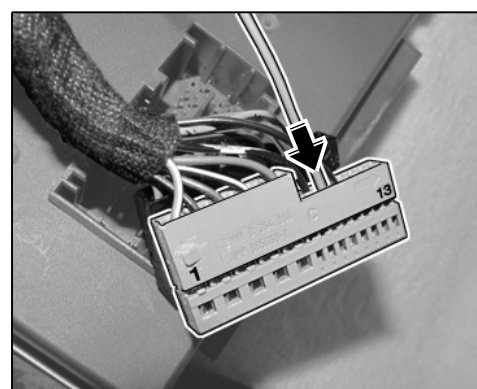

Figure 29
- 3.3.3 Insert socket contact into chamber 8 ⇒ *Figure 29 -arrow-* of the grey plug socket.